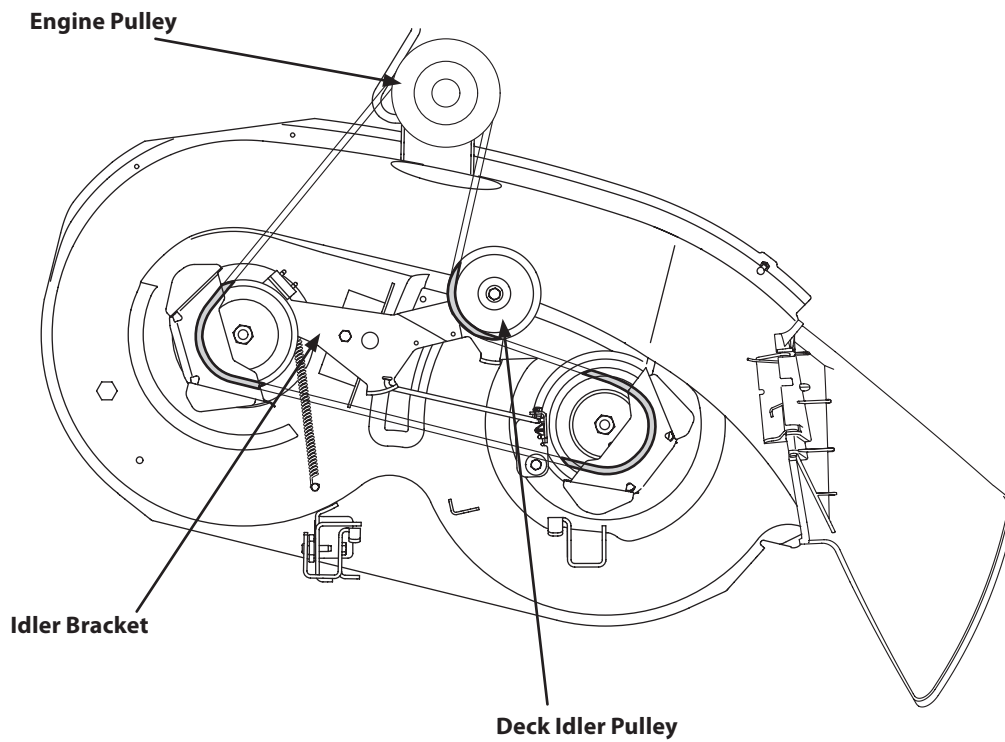

Figure 7-9
5. Route the new belt as shown in Fig. 7-9.